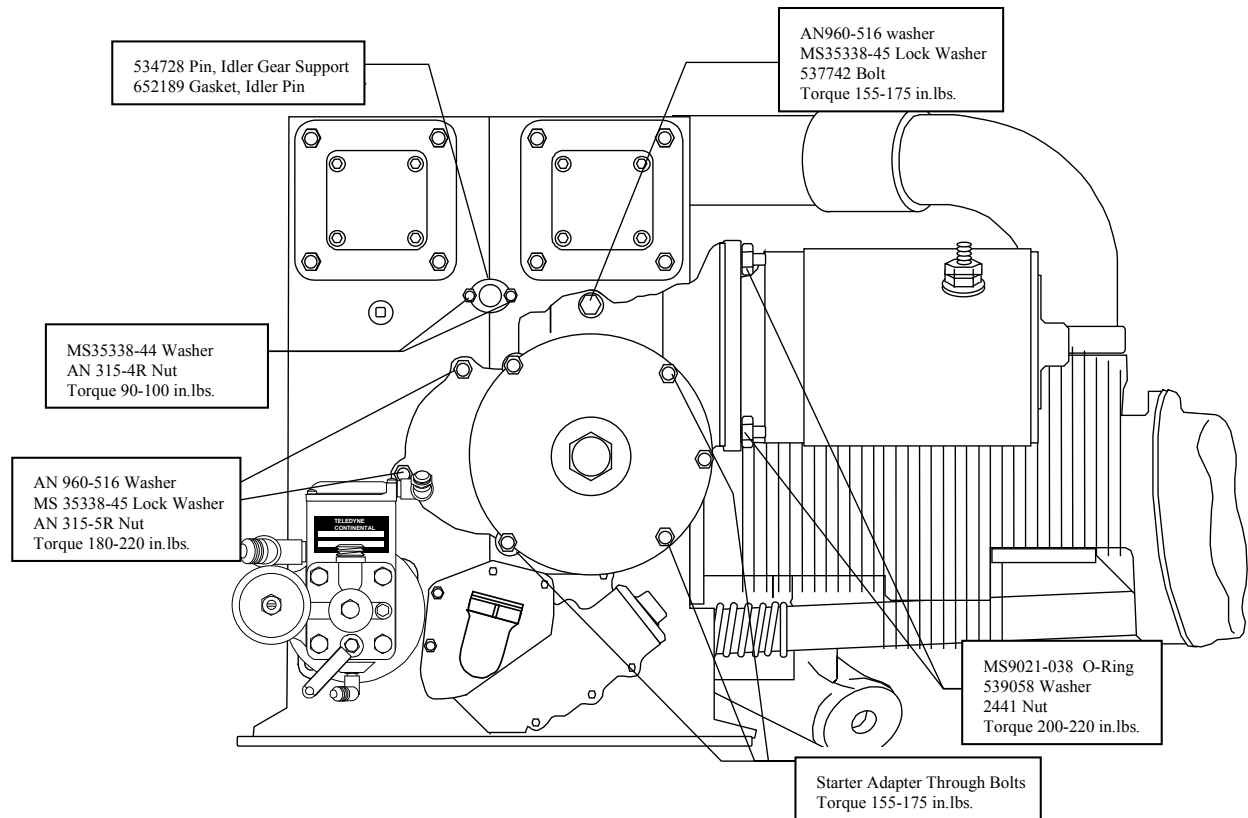

FIGURE 5. STARTER ADAPTER ASSEMBLY
3. Remove the two nuts P/N 2441 and washers P/N 539058 that attach the starter to the adapter. See Figure 5 on page 8.
4. To remove the starter adapter from the engine, remove two sets of nuts P/N AN315-5R, lock washers P/N MS35338-45, and plain washers P/N AN960-516. Remove the top starter adapter bolt P/N 537742, lock washer P/N MS35338-45, and plain washer P/N AN960-516. Loosen the three starter adapter through-bolts located between the starter adapter housing and torsional damper that are positioned at the two, five and seven o'clock positions. Loosen each of these through-bolts until they contact the torsional damper. Pull the starter adapter away from the engine crankcase as far as possible. Repeat this procedure until the bolt threads are no longer engaged in the crankcase. See Figure 5 on page 8 for location of hardware.
11. Using a new gasket reinstall starter adapter in the reverse order of removal. Reinstall starter motor using new O-ring. Refer to Figure 5 on page 8 for attaching hardware torque values.